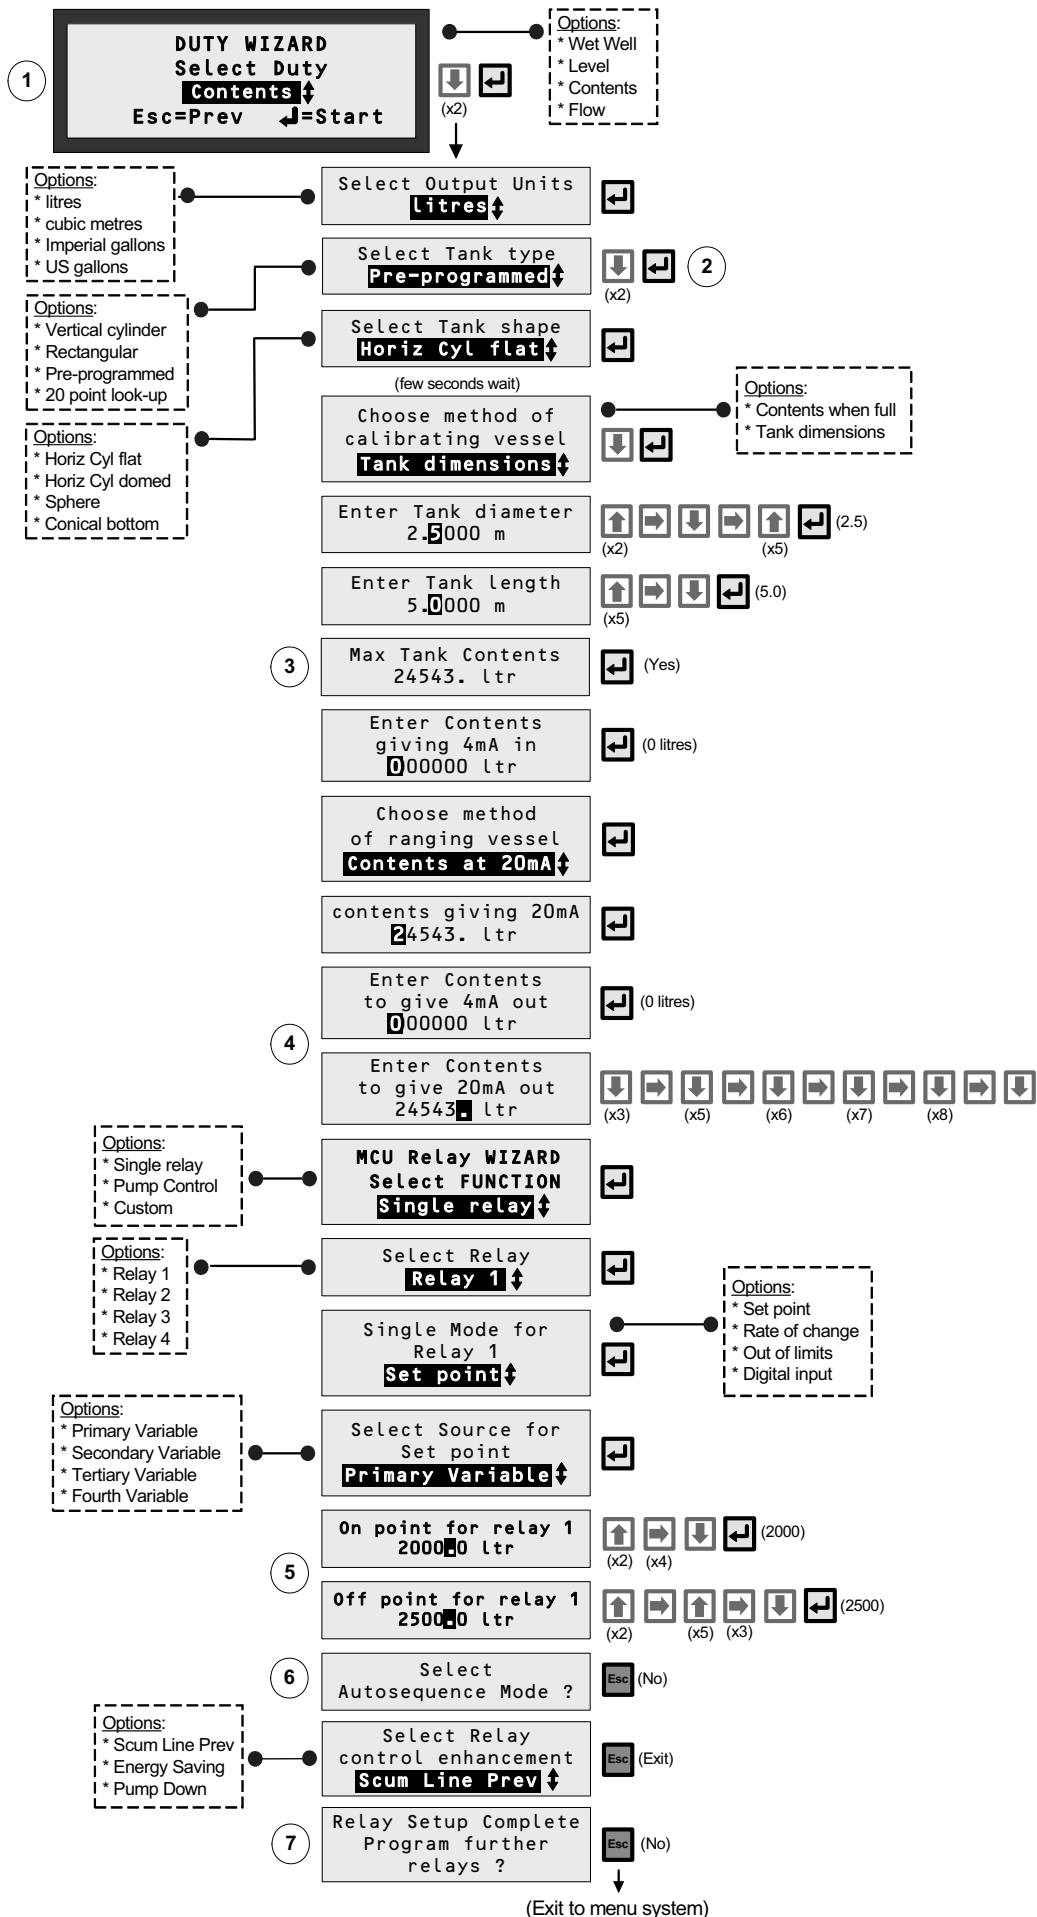

Figure 44: Application/Duty: Contents measurement using a 4-20mA Level Transmitter
4. Work through the “Duty” Wizard prompts (Figure 44 or Figure 45) until completion; this occurs when the menu system re-appears. Keypad hints, for the illustrated Wizard sequence on the next page, are provided alongside the prompts. If applicable, adapt the example to suit your application.
- ① Select “Contents” from the multiple-choice list.
- ② The required tank shape is a pre-programmed shape from the MCU Control Unit library.
- ③ Maximum contents as calculated by MCU Control Unit. It can be edited here if required.
- ④ Set-up the 4-20mA output span with a content range (e.g. 0 to 24,543.5 litres)
- ⑤ Set-up relay RL1 to be energised whenever the measured content falls below 2000 litres and de-energises on rising above 2500 litres, as defined at these prompts.
- ⑥ Option for relay auto-sequencing.
- ⑦ Option to set-up further relays.